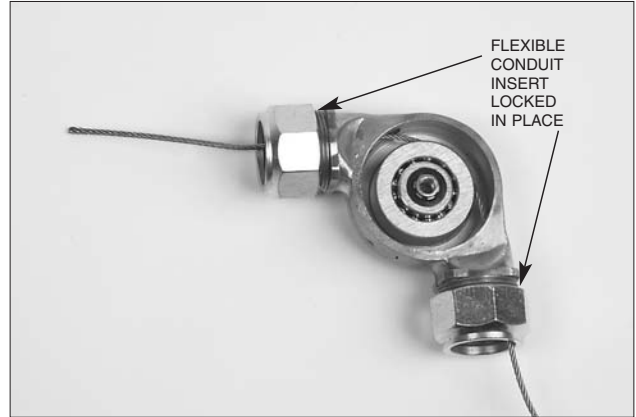

Figure 4-50
3. Tighten the nut to the connector conduit body, locking the flexible conduit insert in place. See **Figure 4-50**.